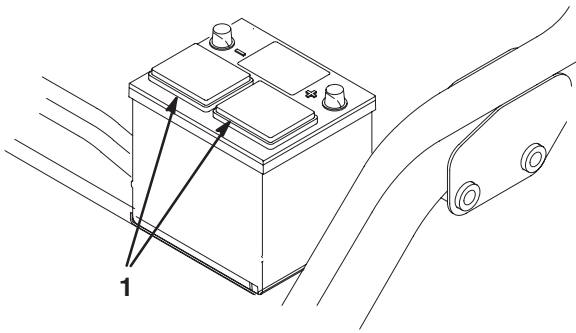

Figure 4
- Clean the top of the battery and remove the vent caps (Fig. 4).